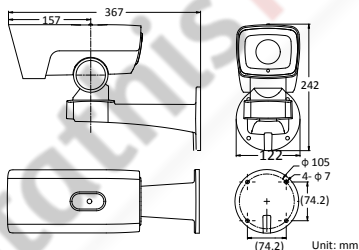

Figure 2-49 Wall-mounted PTZ Bullet Camera
- Dimensions of wall-mounted PTZ bullet camera is shown in Figure 2-49.